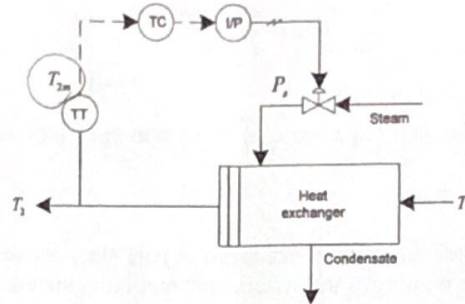

Figure 1
3. A process stream is heated using a shell and tube heat exchanger. The exit temperature is controlled by adjusting the steam control valve shown in Figure 1.